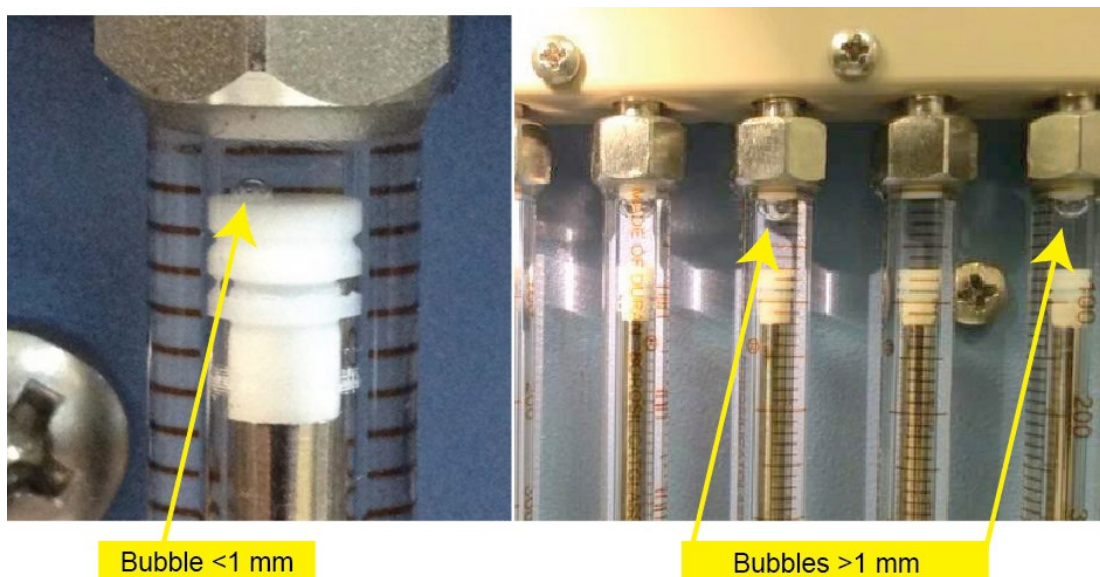

Figure 20. Monitoring the fluidic module for trapped bubbles. The bubble on the left is an acceptable size, while the bubbles on the right are too large.
3. During the daily warmup, monitor the syringes in the fluidic module for trapped bubbles (Figure 20).